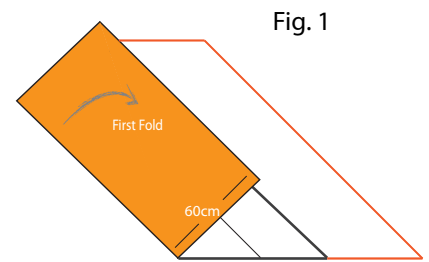
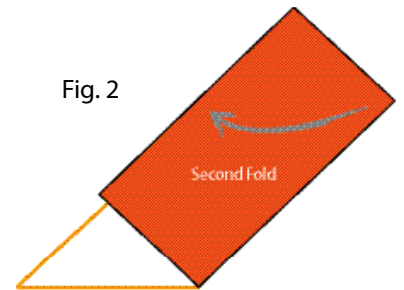

Fig. 1
Fig. 2
**6. Wetting Out:** Pour 75% onto the fiberglass mat. Use squeegees and spatulas to spread the resin evenly and liberally to coat the surface of the mat. Flip entire mat over. Pour out remaining resin and spread out evenly. Fold the left side of the wetted mat over to the black centre line located on the woven side of the mat as shown in (Fig. 1). Fold the right side of patch overlapping the edge of the first fold by 2.5cm (Fig. 2).